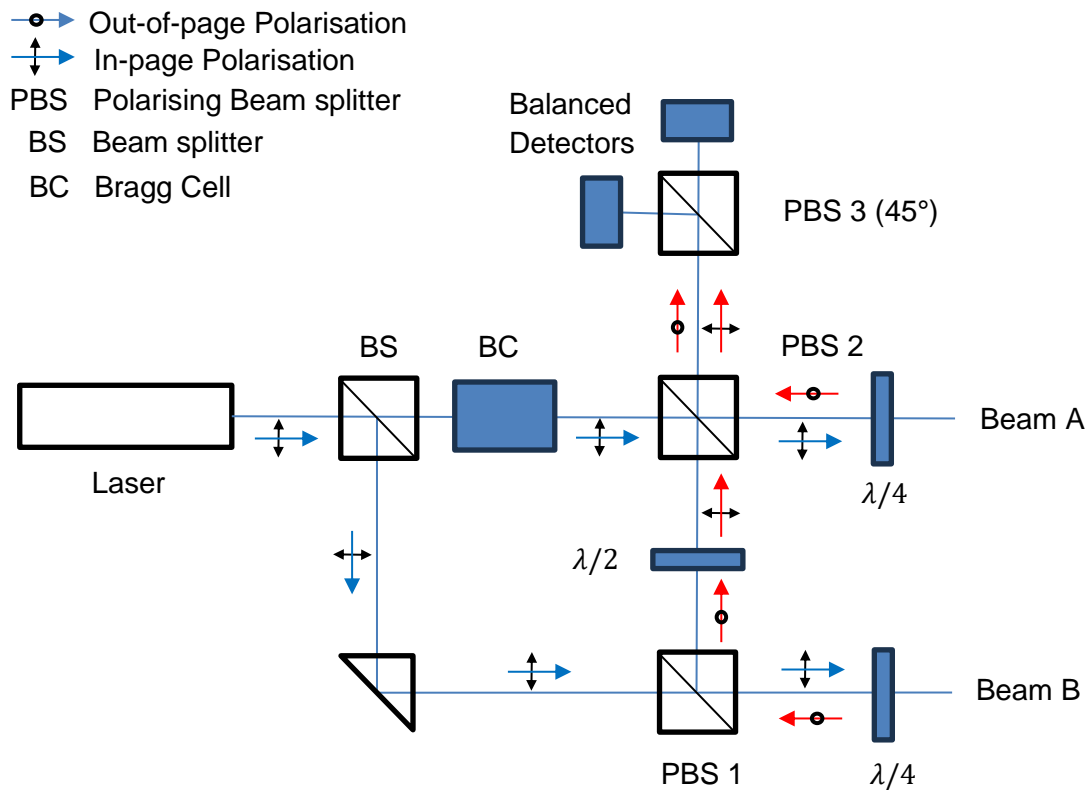

Figure Q1a)
1. A differential laser vibrometer is shown in figure Q1a).